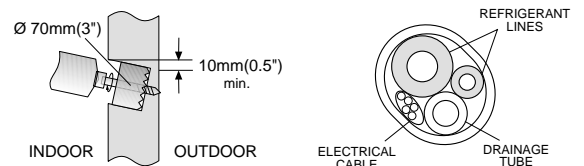

Fig. 5
- To make the connections between the indoor and outdoor units, a 70 mm (3") hole should be drilled for the refrigerant lines, drainage hose and electric cables the wall, as shown in Figure 5.
- Make sure the drainage hose is at the bottom side of the hole (see Figure 5).